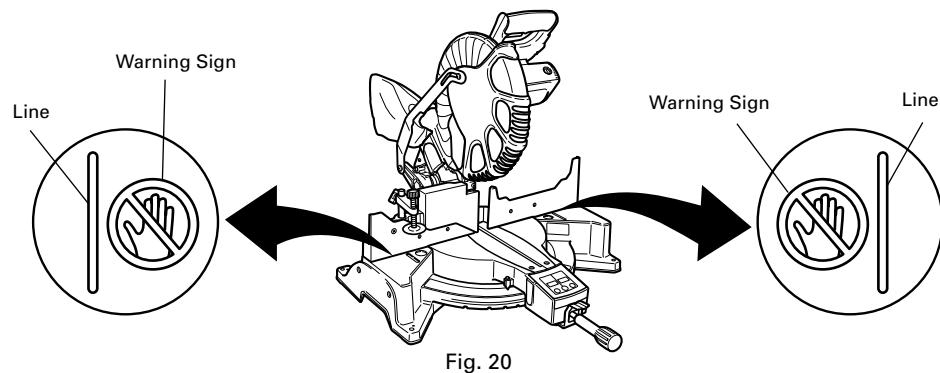

Fig. 20
* Never place your limbs inside of the line next to warning sign while the tool is being operated. This may cause hazardous conditions (see Fig. 20).